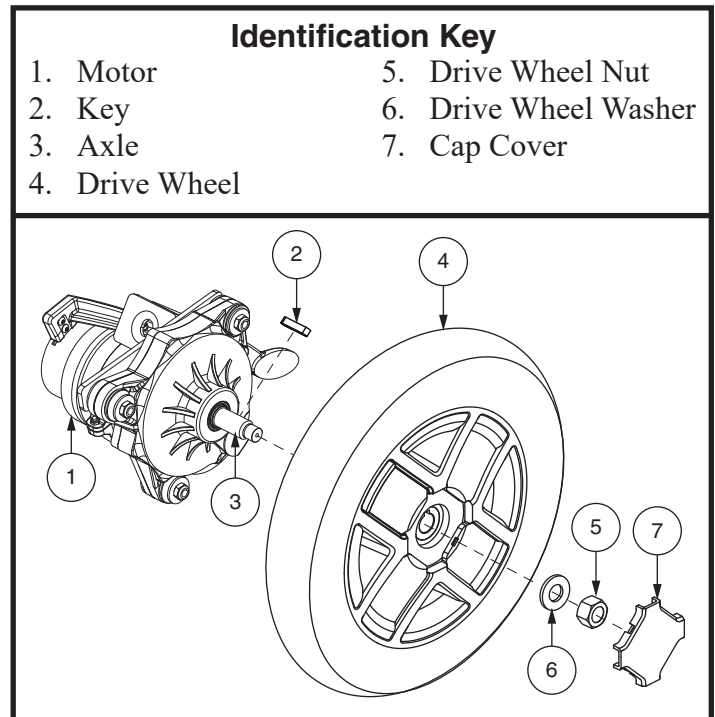

Figure 13. Drive Wheel Removal
4. Remove the cap cover, drive wheel nut, and washer from the axle. See figure 13.
6. Remove the screws from the rim assembly and separate the front and rear rim. See figure 13.
A battery wiring diagram is printed on a decal located on the front battery tray. See **figure 13**. See VI. “Batteries and Charging” for correct battery specifications.
9. Install new batteries into the power base. Make sure the terminals of each battery are facing toward each other. See **figure 13**.